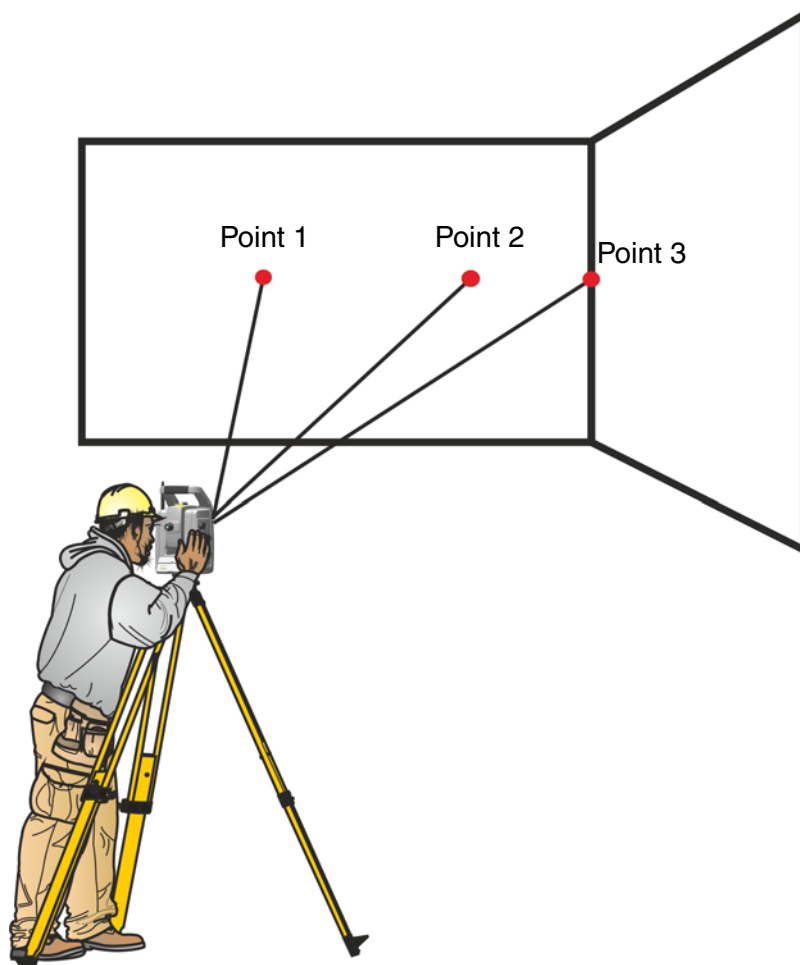

Figure 5.4 Offset measurement
2. Aim the instrument at the corner to store the correct horizontal and vertical angle. See Figure 5.4